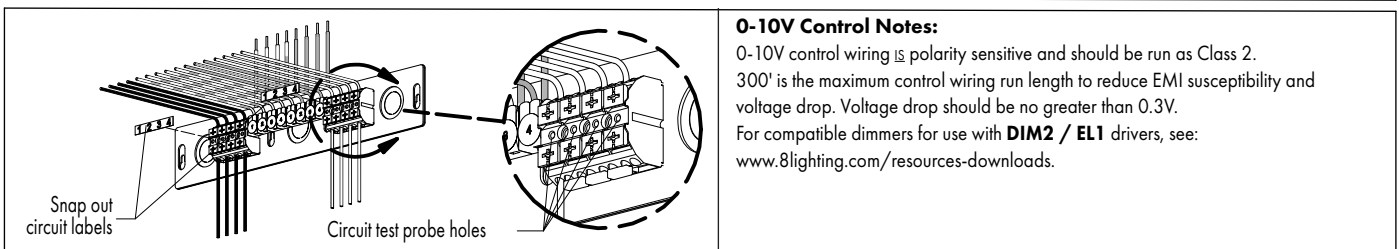

FIG 7.4 Accessing Circuit Probe Holes
3. Check circuit continuity using holes in terminal blocks – FIG 7.4.